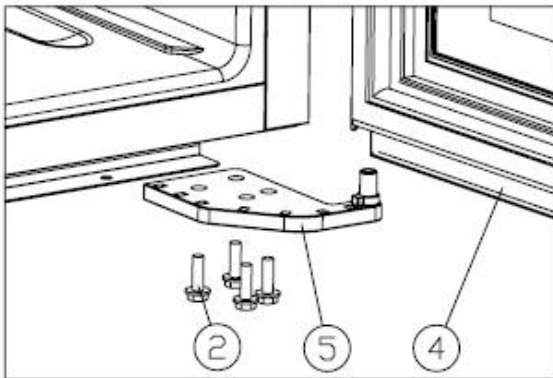

Figure 2
- ✧ Unscrew the M5*16screws②, dismantle the right lower hinge⑤.[Figure 2]